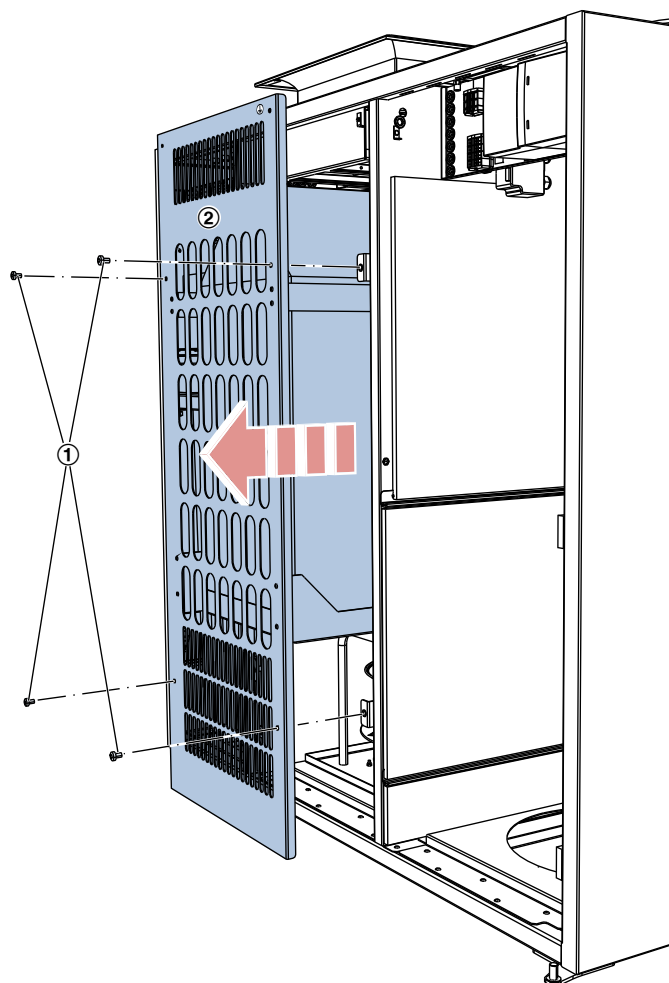

Fig. 13: Cover grille with sound attenuator on the supply air fan
7. ▶ Loosen the four screws (Fig. 13 /1) on the cover grille and pull out the grille with the sound attenuator (Fig. 13 /2) towards the front. Disconnect the earthing plug from the grille ⚡